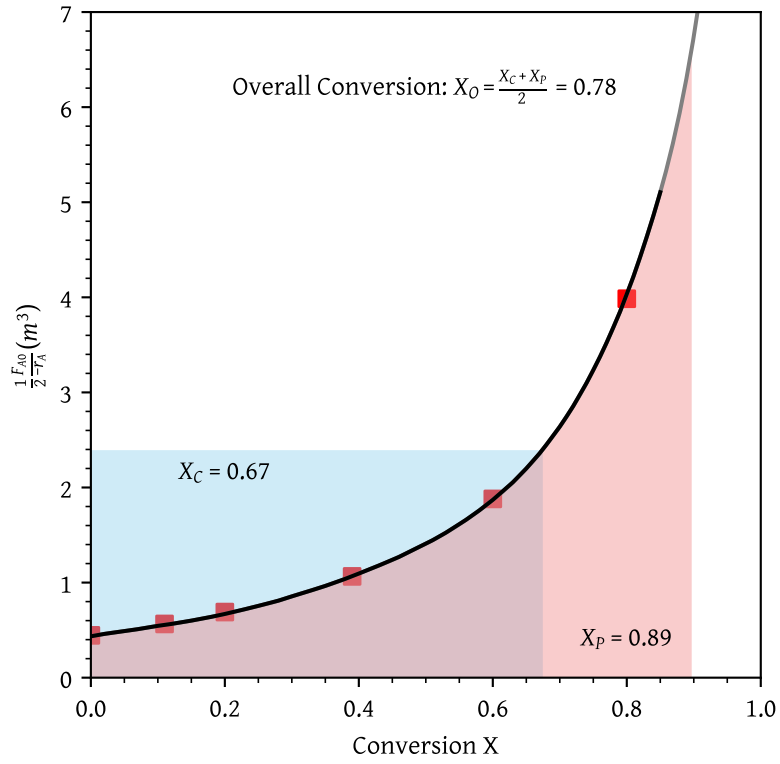

Figure 7: Conversion from a CSTR and a PFR in parallel
- (e) A CSTR and a PFR in parallel with the flow equally divided. Calculate the overall conversion,  $X_{ov}$  (Figure 7)